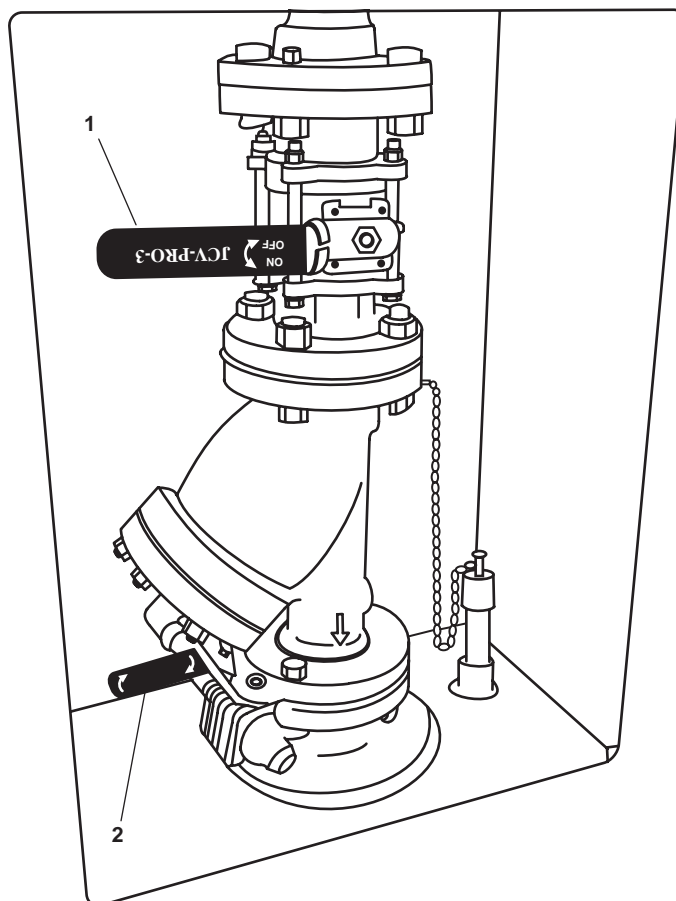
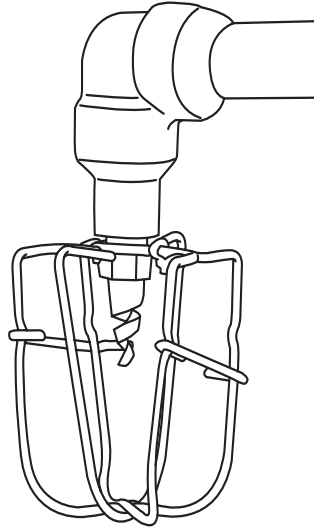
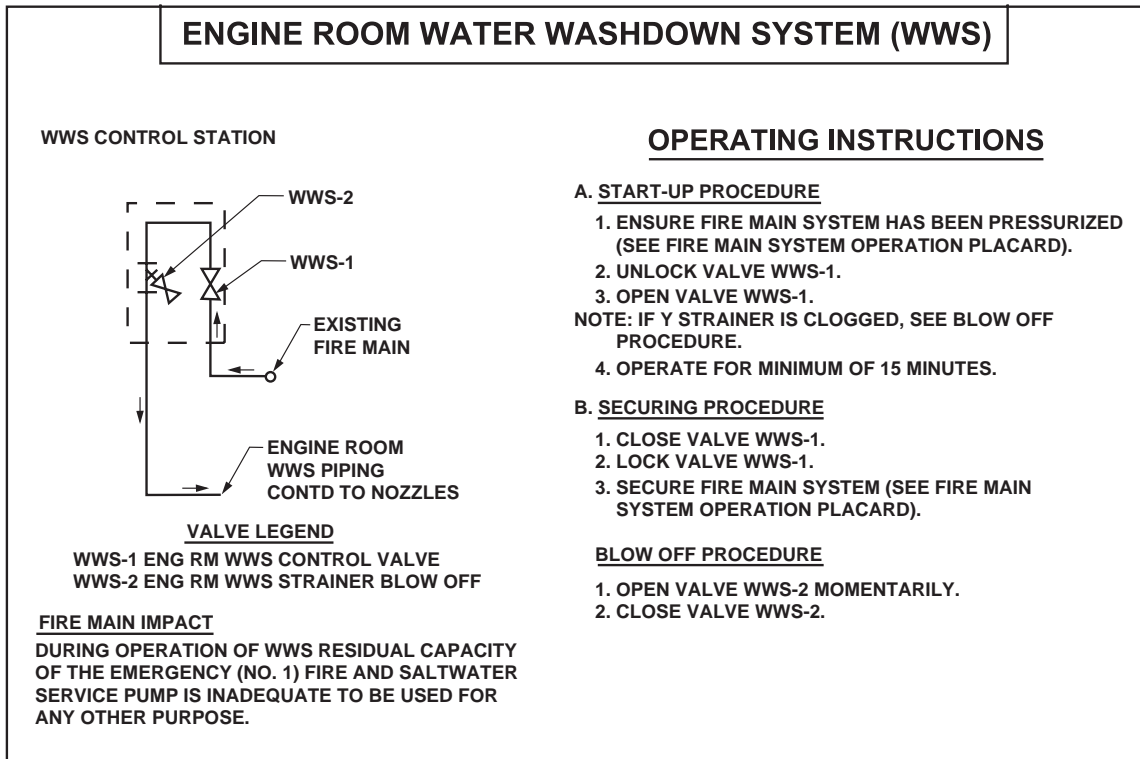

Figure 7. Engine Room Water Washdown Station
Figure 8. Engine Room Water Washdown System Sprinkler Head
Figure 9. Engine Room Water Washdown System Operating Instructions
Activation of the ERWWS is accomplished by opening WWS-1 (figure 7, item 1). WWS-1 is located in the engine room vestibule on the main deck at frame 25. The ERWWS shall be activated prior to actuation of the FM-200 fire suppression system. The ERWWS is a Hydrogen Fluoride (HF) gas mitigating water washdown system that provides general overhead coverage to the protected spaces. The ERWWS consists of simple overhead sprinkler heads (figure 8) piped directly to the fire main. The ERWWS receives raw water directly from fire and general service pump 1. Fire and general service pump 1 is powered by the Emergency Diesel Generator (EDG) switchboard and will have to be restarted remotely from the pilothouse once the EDG comes online.
When the FM-200 fire suppression system is actuated to extinguish a fire, allow the ERWWS to operate for a minimum of fifteen minutes. During the ERWWS operating period, valve WWS-2 (figure 7, item 2) should be OPENED for ten seconds every three minutes. WWS-2 is the ERWWS strainer blow off and will flush foreign matter from the inline strainer basket during operation of the ERWWS. The ERWWS operating instructions (figure 9) are posted above the ERWWS station valves in the main deck vestibule.